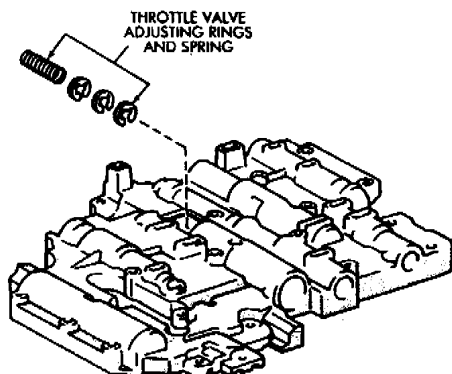

Fig. 5 Throttle Valve Adjusting Ring Location (If Equipped)
(5) Turn upper body over and remove throttle valve adjusting rings and spring (Fig. 5). Note number of adjusting rings if valve is equipped with them.